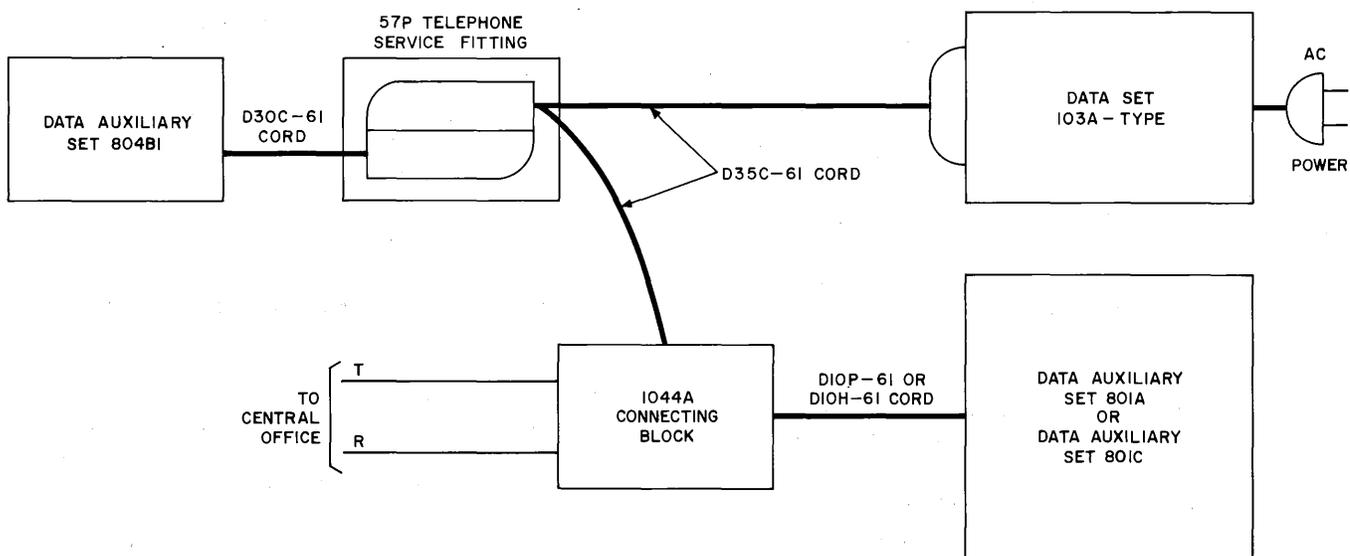

Fig. 6—Physical Arrangement Using D35C-61 Cord
3.02 A D35C-61 cord is furnished with the data set. This cord replaces the D25C-61 cord (MD). The physical arrangement using the new type cord is shown in Fig. 6. The details of the connections at the 1044A connecting block differ for the following arrangements: